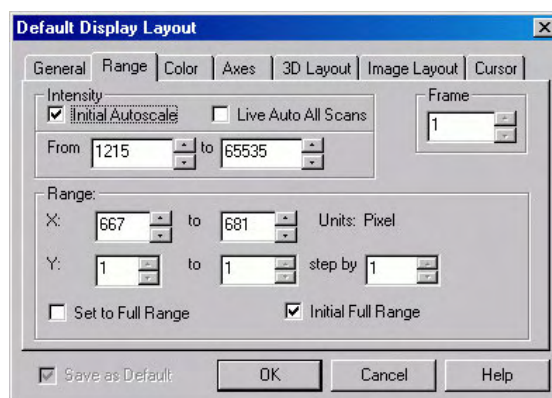

Figure 72. Range tab page
2. Click on the **Range** tab to move the Range tab page (Figure 72) to the front. **Initial Autoscale** and **Set to Full Range** should be selected. The Frame number should be "1."